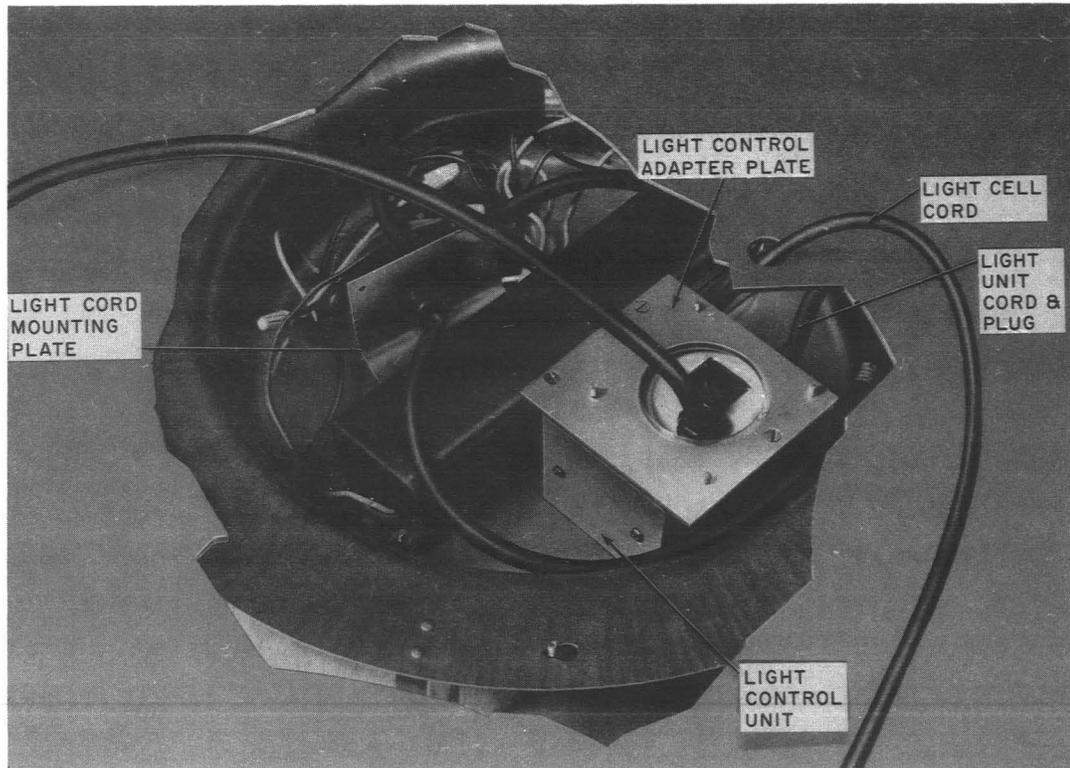

Fig. 14—Position of Light Control in Light Fixture
(n) Bend light cord mounting plate and wedge it under ballast (Fig. 14).
- (l) Bend light cord plate and wedge under ballast (Fig. 14).